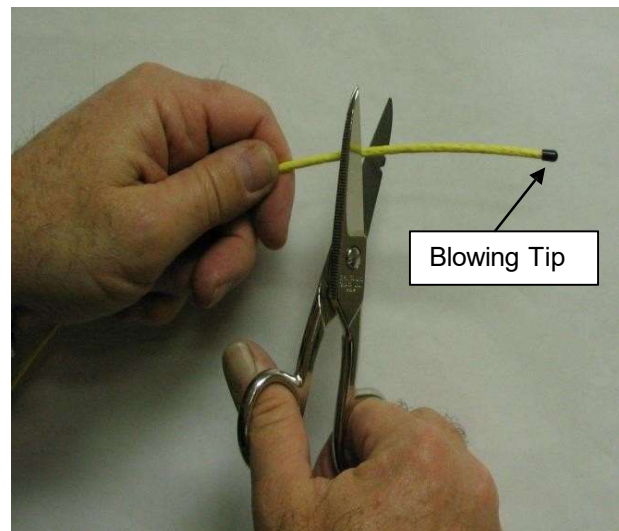

Figure 7
10.6. Remove and retain reusable Fiber Bundle Blowing Tip. **See Fig. 7.**